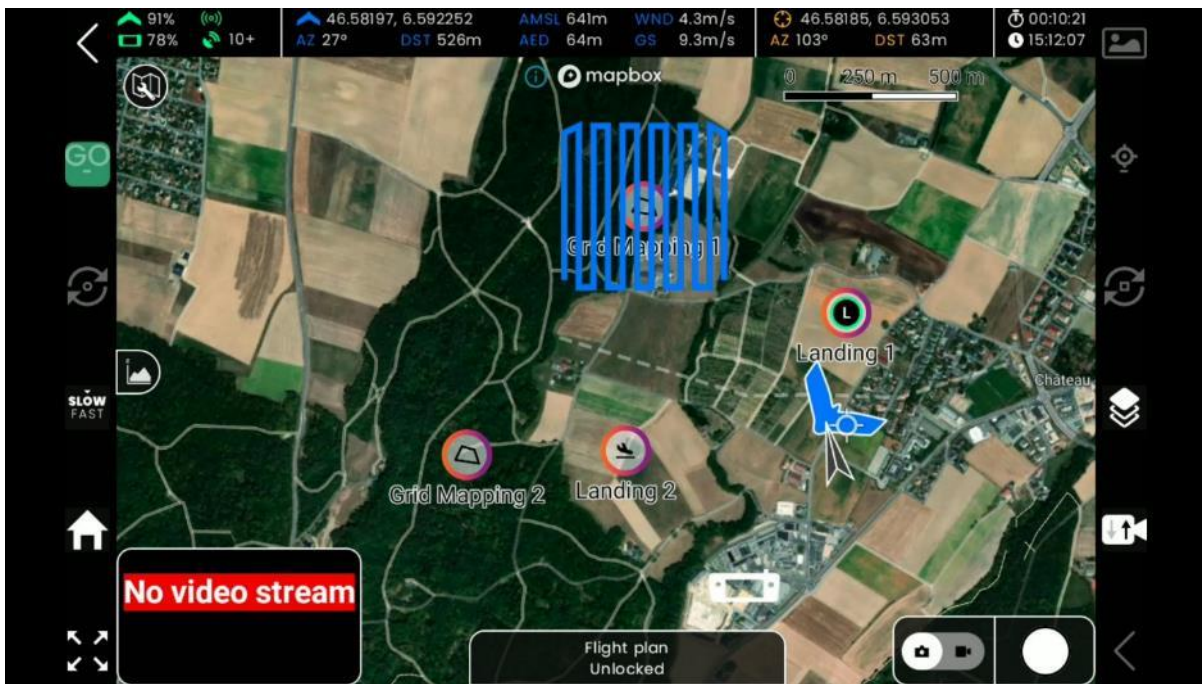

Figure 3-78 Grid Mapping 1 flight plan block is started.
When a “flight plan block” is saved, it will be represented on the map by a small icon (see (1) on Figure 3-77 Multiple flight plan blocks elements (1)). Grid Mapping 1 was long pressed and shows its start button (2).). To start a flight plan block, the drone must be flying. On the Fly view, long-press on the block to start, a start button will appear (see (2) on Figure 3-77). Tap on this start button to start the mission right away. The mission is then expanded and its trajectory visible (see Figure 3-78).